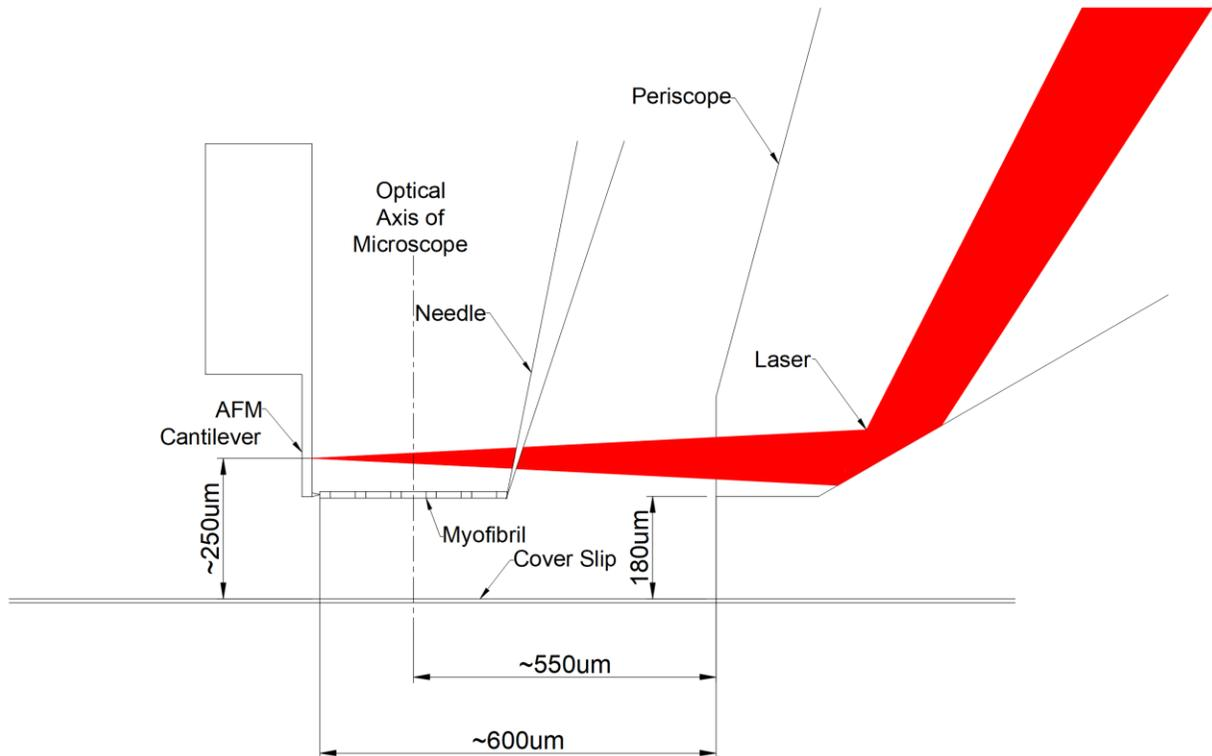

Figure 9 Orientation of AFM Cantilever and Needle with respect to Periscope
set the point where the laser beam hits the cantilever, see Figure 9. Focus the microscope on the needle tip.
9. Move the cantilever up by 180  $\mu\text{m}$  or another amount according to the desired elevation of the myofibril. Note: this elevation also acts to set the sensitivity of the instrument because it will set the point where the laser beam hits the cantilever, see Figure 9. Note: The location of the cantilever from the surface is extremely critical. Once a cantilever elevation from the surface